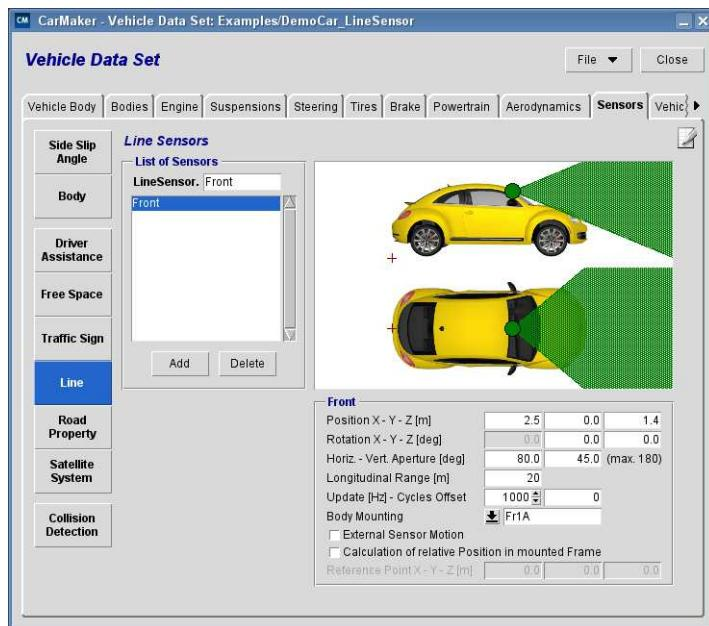

Figure 5.101: Line Sensor parameterization
**LineSensor.** Here you can enter a name for the current sensor, to alleviate the identification of the sensor quantities, e.g. in IPGControl. All User Accessible Quantities of this sensor will start with the prefix *LineSensor.Name.\**. In the example in Figure 5.101, the UAQs of this sensor will start with *LineSensor.LN00.\**.